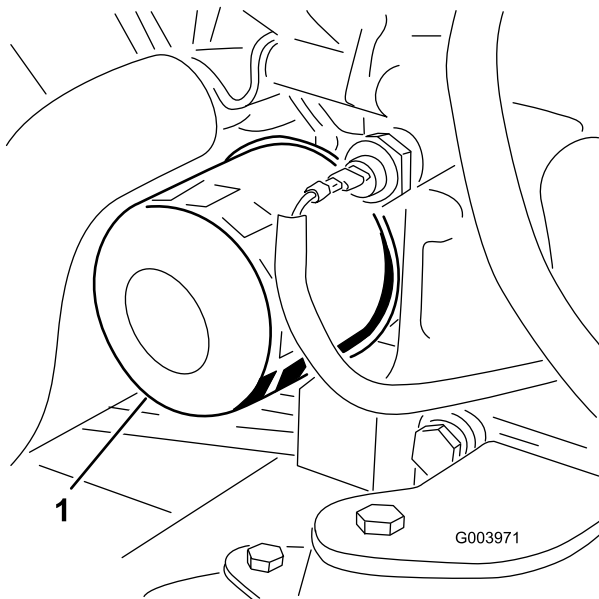

Figure 63
3. Remove the oil filter (Figure 63).